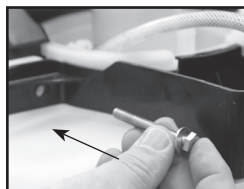

Figure 8
- 9) Reassemble frame assembly to the sprayer tank. Use a socket wrench on both the bolt and nut to tighten (Fig. 8).